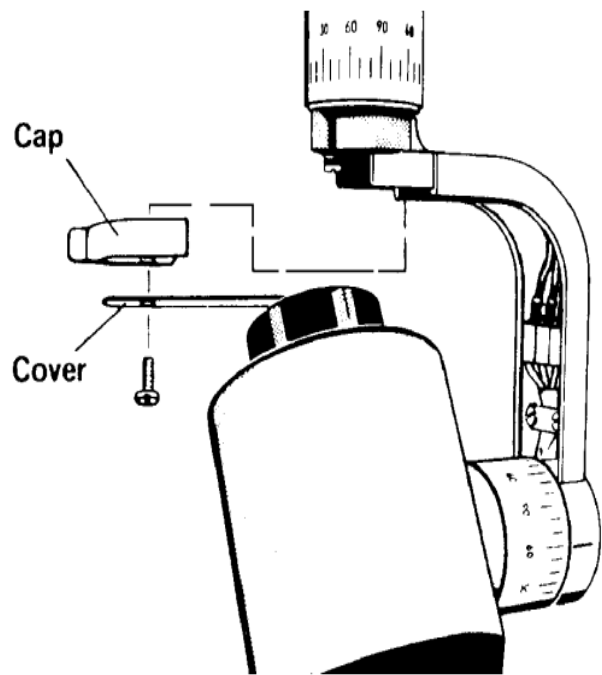

Figure 4-13. X-ray head reassembly, part three.
- (6) Ground connections.
- (7) Connect and secure the leads as shown in figure 4-13.
- (8) Press in the U-channel.
- (9) Place the cap on the yoke taking care not to pinch electrical wires.
- (10) Place the cover over yoke and fasten with screw.